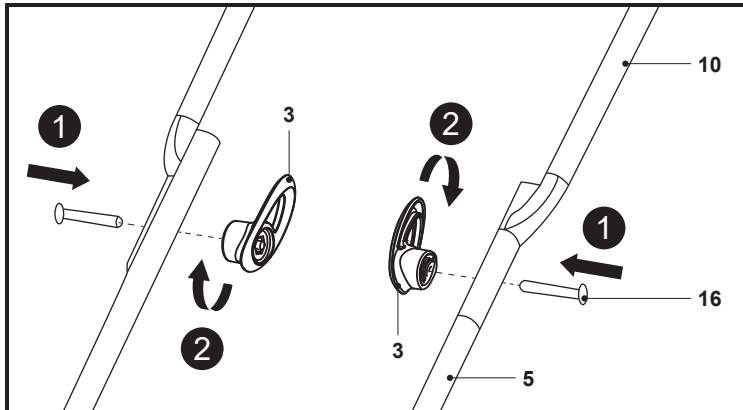

Fig. 3
2. Fix the upper handle bar (10) using the mounting sets (16), and the locking knobs (3) on the lower handle bar (5) (Fig. 3). The handle can be placed at two different heights, which is comfortable during normal use.